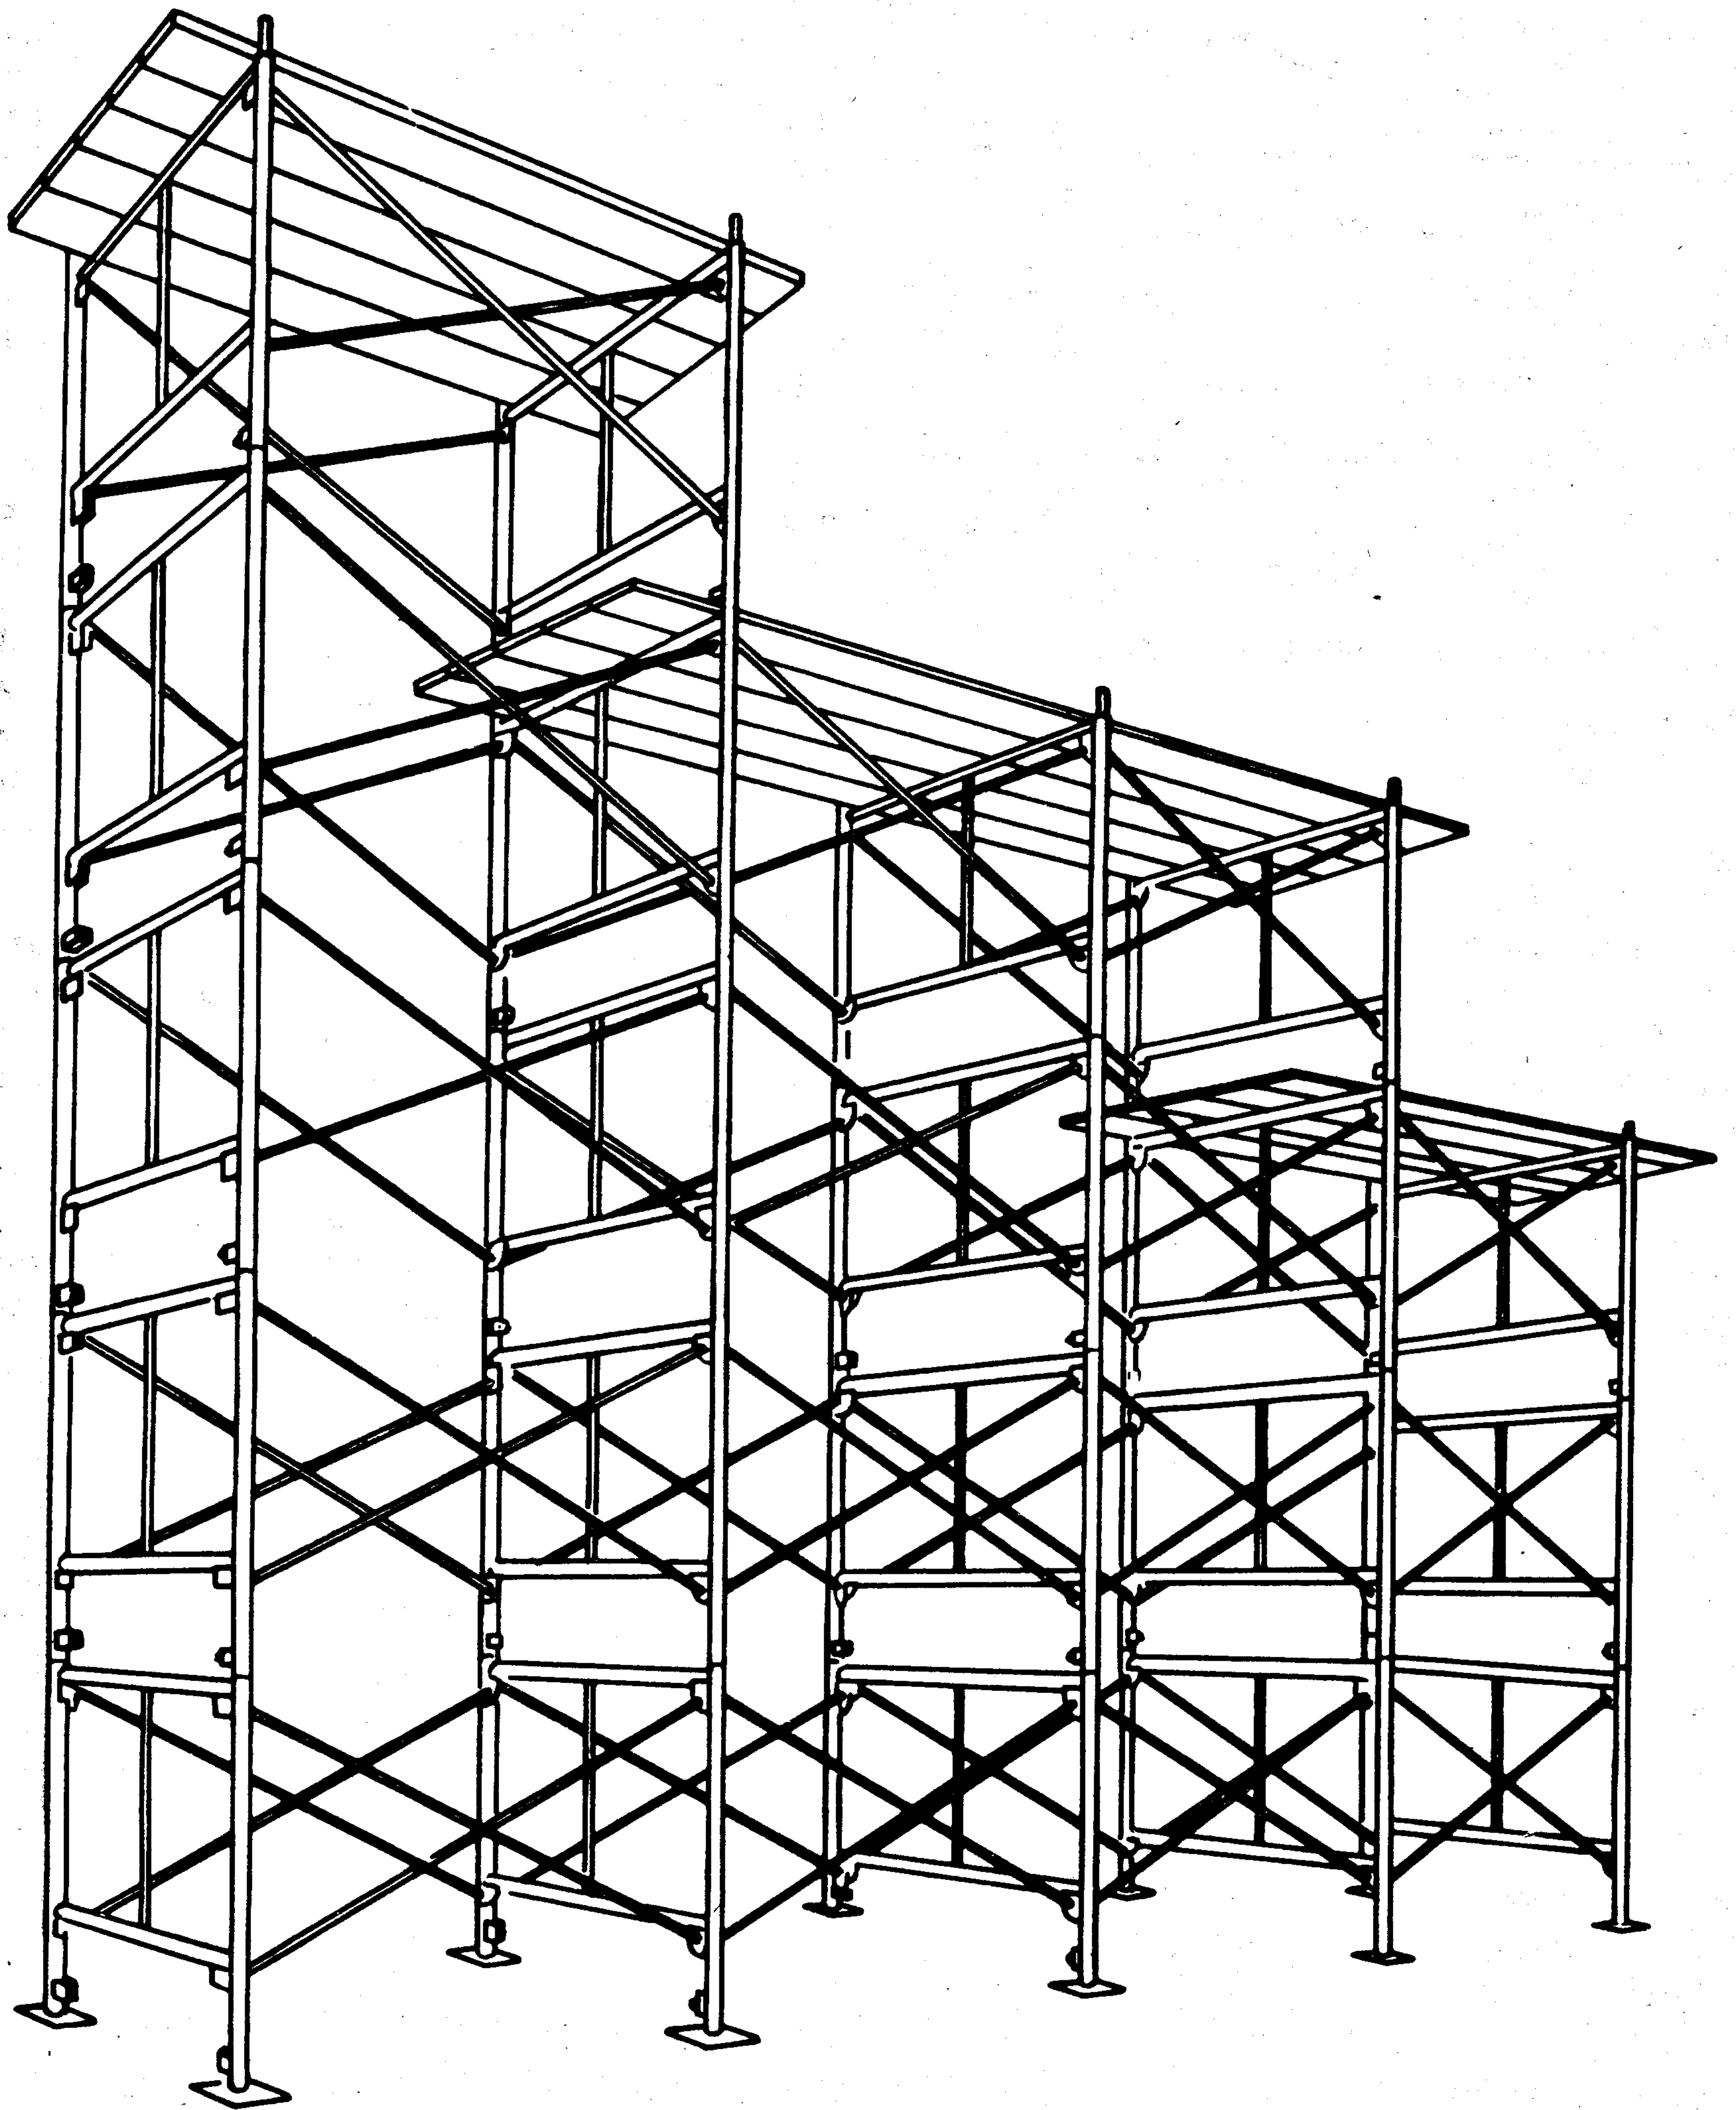

Figure 6-7. Independent scaffolding.
d. Double Pole Built-Up Scaffold. The double pole built-up scaffold (steel or wood), sometimes called the independent scaffold, is completely independent of the main structure. Several types of patent independent scaffolding are available for simple and rapid erection (fig. 6-7). The scaffolding can be built up from wood members if necessary. The scaffold uprights are braced with diagonal members and the working level is covered with a platform of planks. All bracing must form triangles and the base of each column requires adequate footing plates for the bearing area on the ground. The patented steel scaffolding is usually erected by placing the two uprights on the ground and inserting the diagonal members.